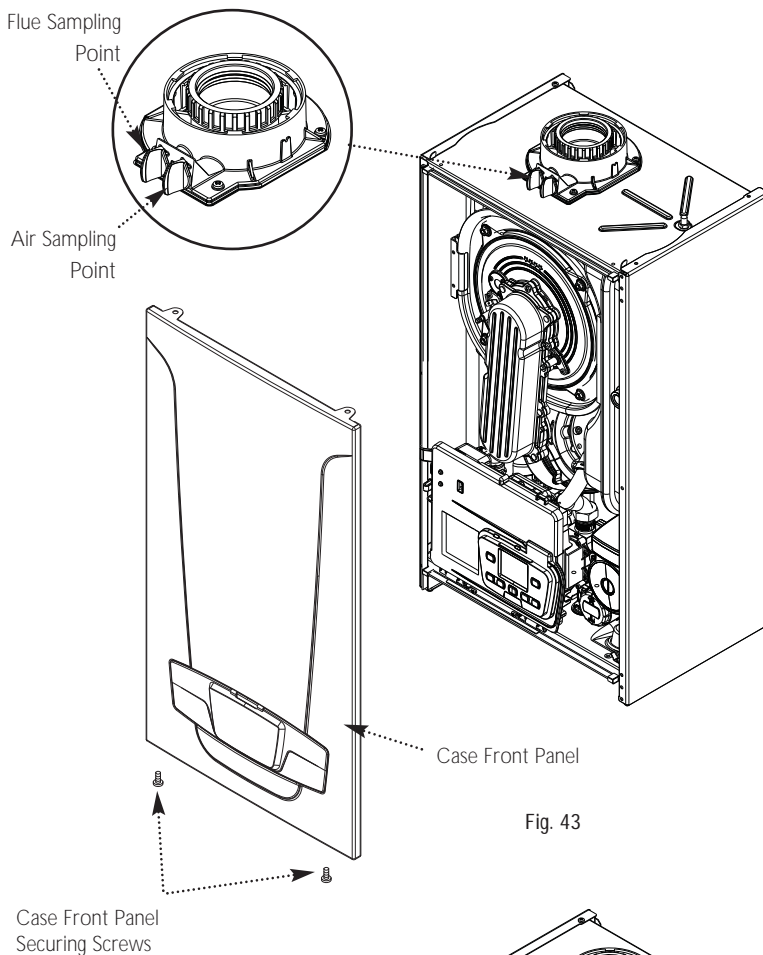

Fig. 43
3. Remove the screws securing the case front panel. Lift the panel slightly to disengage it from the studs on top of the case (Fig. 43) and hinge down the Control Box.